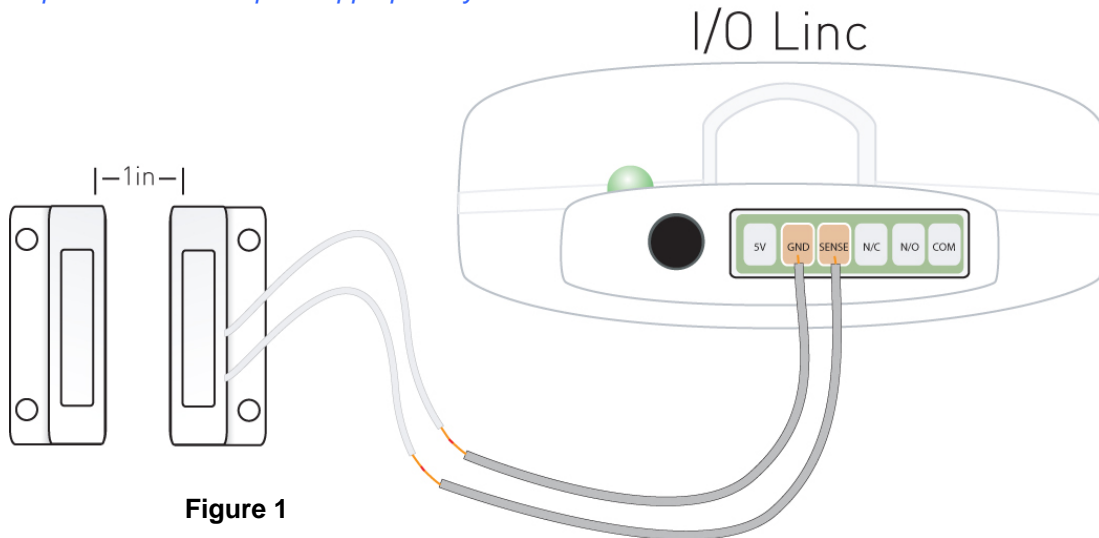

Figure 1
- 2) Connect one sensor wire to the I/O Linc GND terminal (see Figure 1).